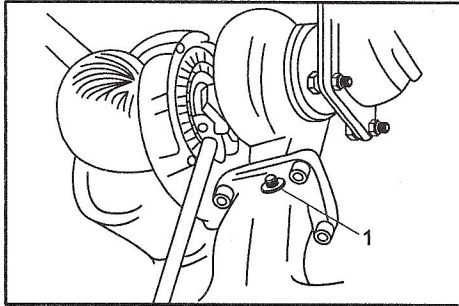

Fig. 05-07
- (1) Remove the plug (1) From the exhaust manifold, then install the temperature sensor (2) (Please see Fig. 05-07, 05-08).